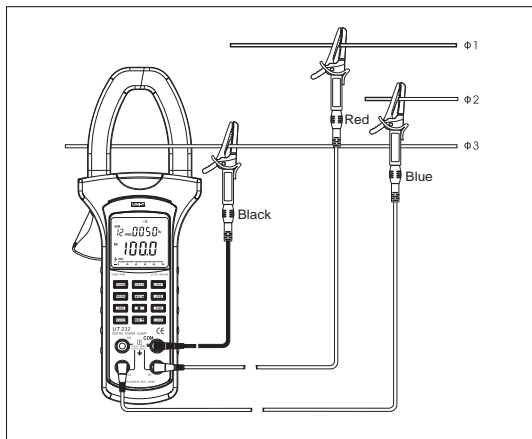

Figure 7
- When measuring 3 phase 3 wires, connect the Meter as figure 7